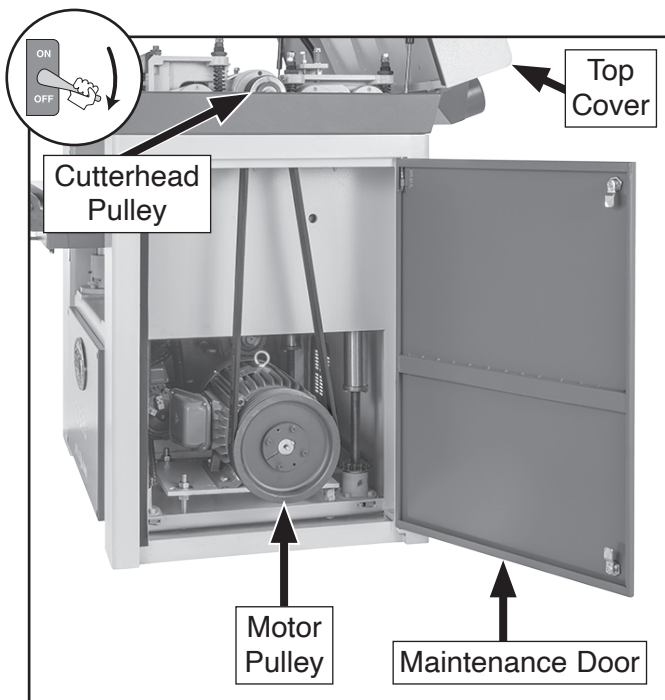

Figure 78. Covers/doors open to expose pulleys.
2. Open maintenance door and top cover to expose cutterhead and motor pulleys (see **Figure 78**).